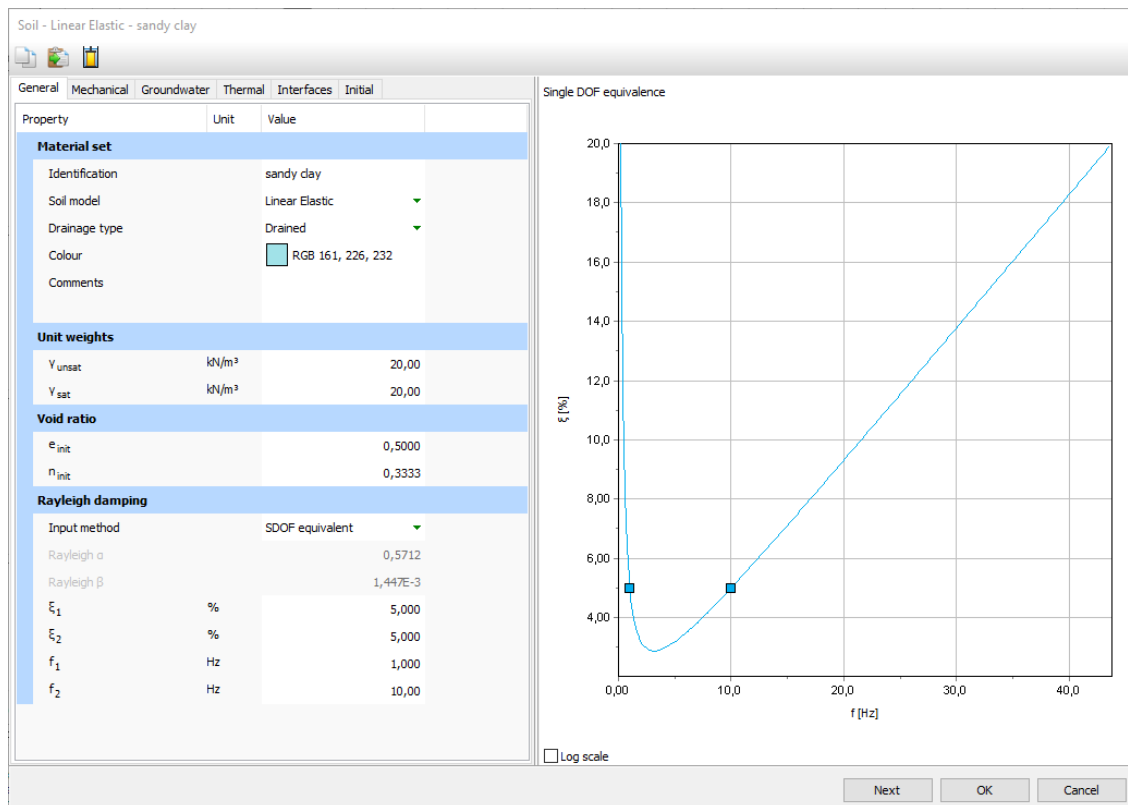

Figure 197: Input of Rayleigh damping
5. The values of  $\alpha$  and  $\beta$  are automatically calculated by the program as shown in Figure 197 (on page 223)..